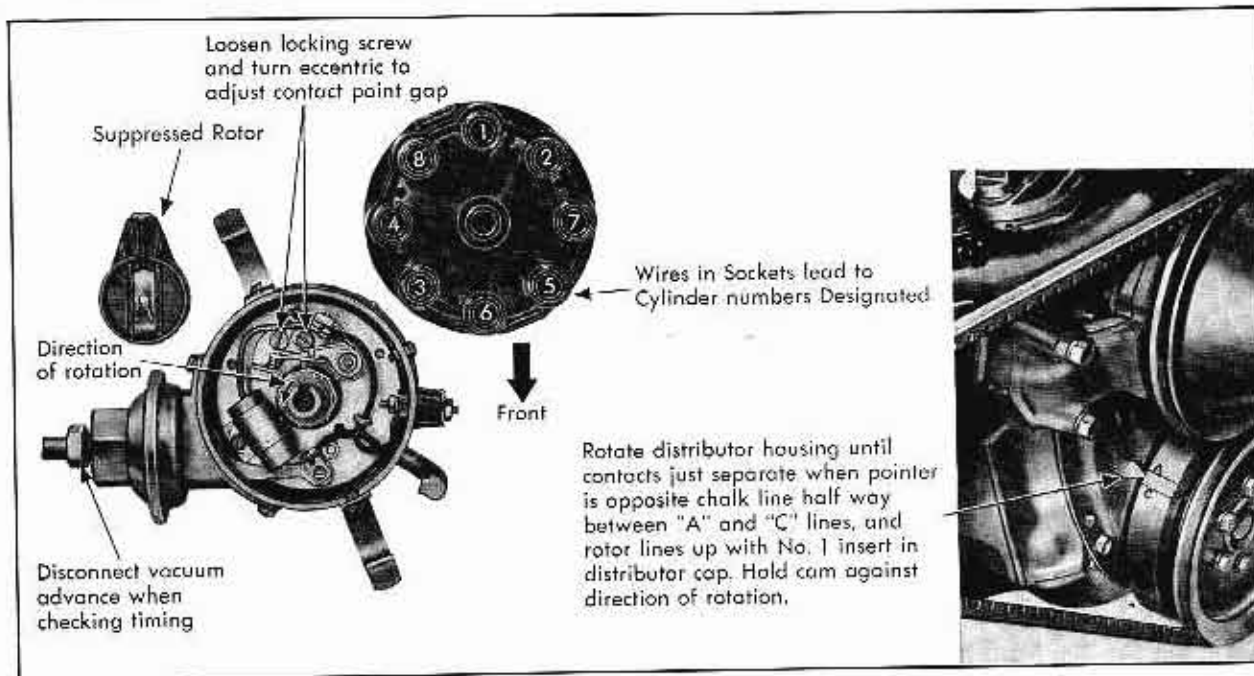

Fig. 11-9 Ignition Adjustments
2. Disconnect carburetor vacuum advance pipe at distributor and plug end of pipe with tape. (This is important, as carburetor trouble can affect the timing adjustments). Fig. 11-9.
5. Start engine and warm to operating temperature. Engine idle speed should be 400 R.P.M. Observe timing light flashes on harmonic balancer in relation to pointer, and rotate distributor so that light flashes as pointer and the chalk line on the harmonic balancer are opposite each other. The chalk line is 2-1/2 degrees before top dead center, Fig. 11-9.